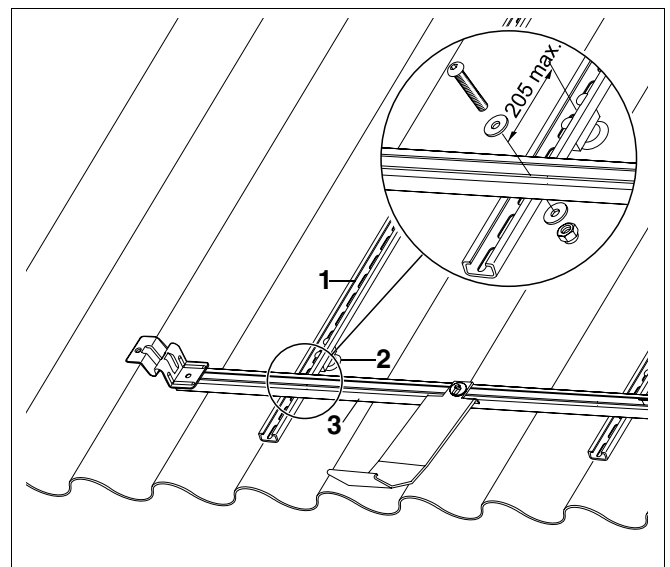

Fig. 9 Secure the horizontal profile rails
The distance between the horizontal profile rail and the support block must not be greater than 205 mm (centre-to-centre) (Fig. 9).
- Secure the horizontal profile rails with the Allen screws, M8 × 50 and two M8 washers to the vertical profile rails (Fig. 9).